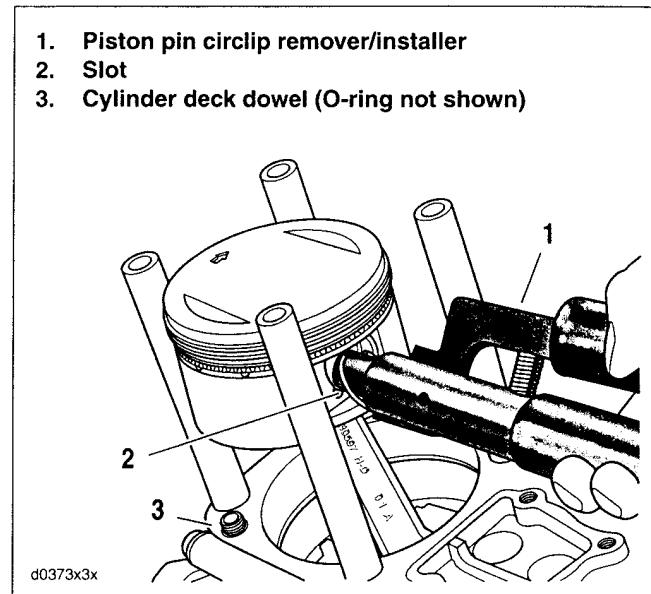

Figure 3-32. Pin Circlip Remover/Installer
- d. See Figure 3-32. Insert the tool (1) into the piston pin bore until claw is aligned with slot (2) in piston.
1. See Figure 3-32. Apply a very thin film of clean H-D 20W50 engine oil to **new** O-rings for both cylinder deck dowel pins (3). Install and verify that O-ring is properly seated in groove.